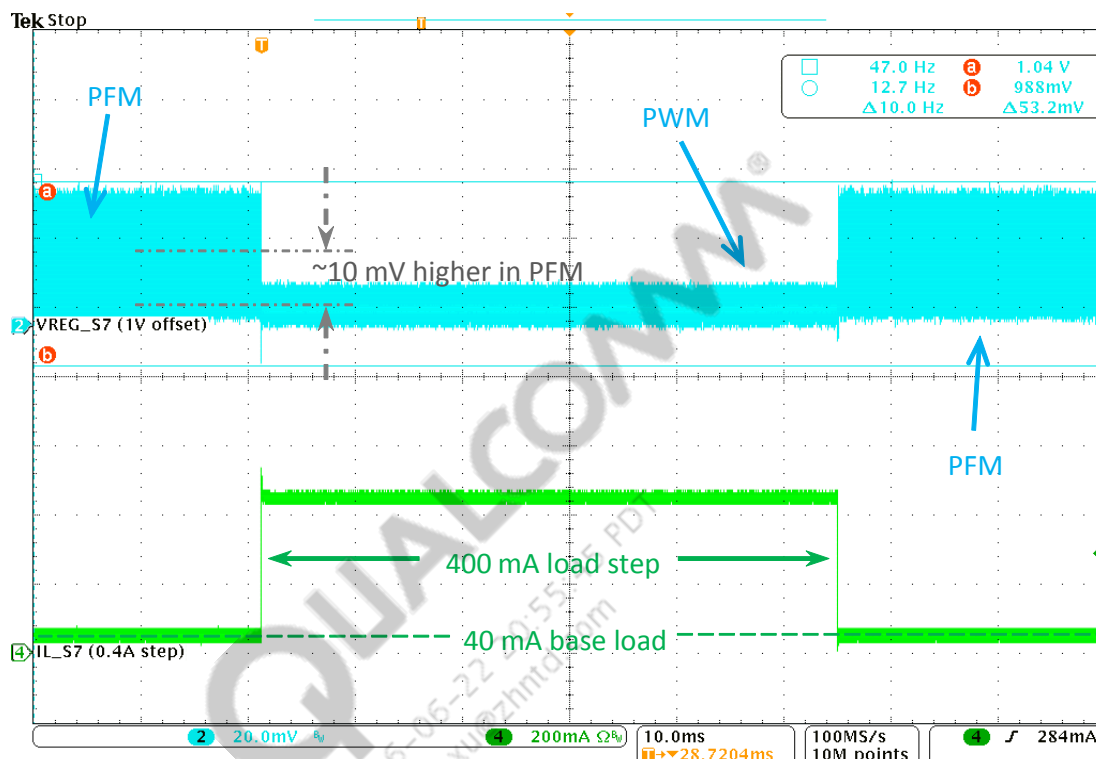

Figure 7 Waveforms of HF-SMPS auto-mode transition
- **Figure 7 – HF-SMPS auto-mode transition**